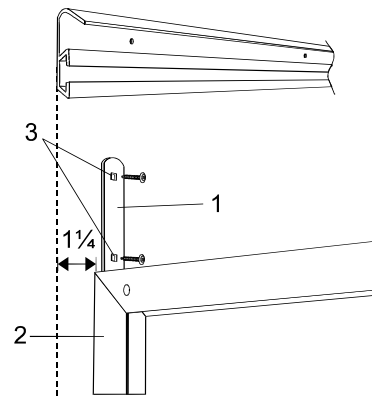

Fig. 8
2. Align the top of one wall against the house with the outside edge of the screen frame  $1\frac{1}{4}$ " inside the vertical mark on the wall (see Fig 8).
3. Slide stiffener (1) into top of wall section (2) with both holes (3) above the screen panel.